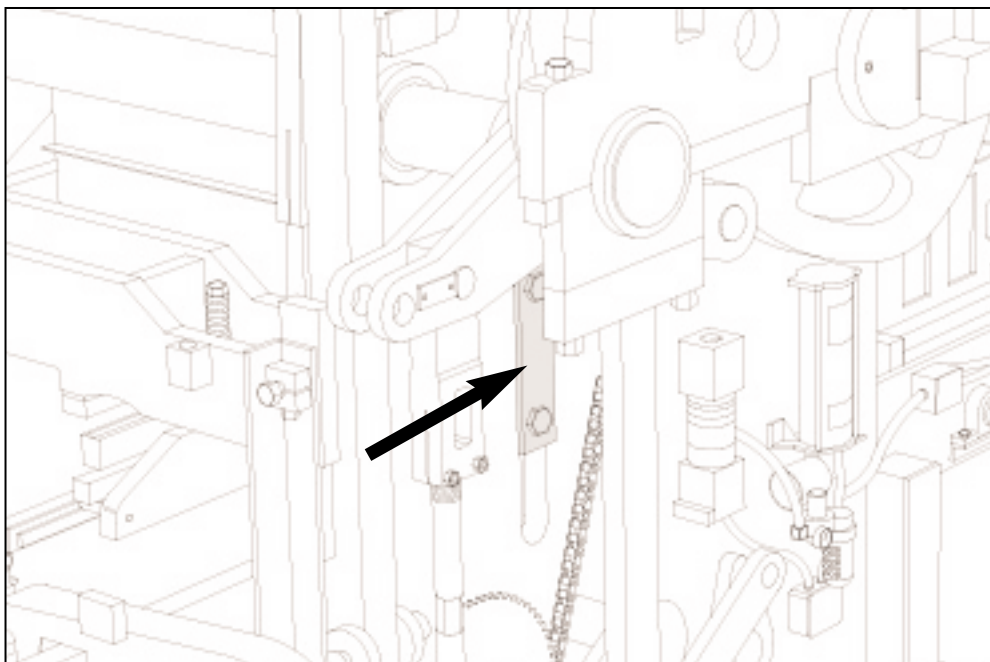

Figure 4.20 LOOSEN "T" CLAMPS ON BOTH SIDES.
a. Loosen the "T" clamps on each side of machine that secure machine side plate to mold throat plate (figure 4.20).